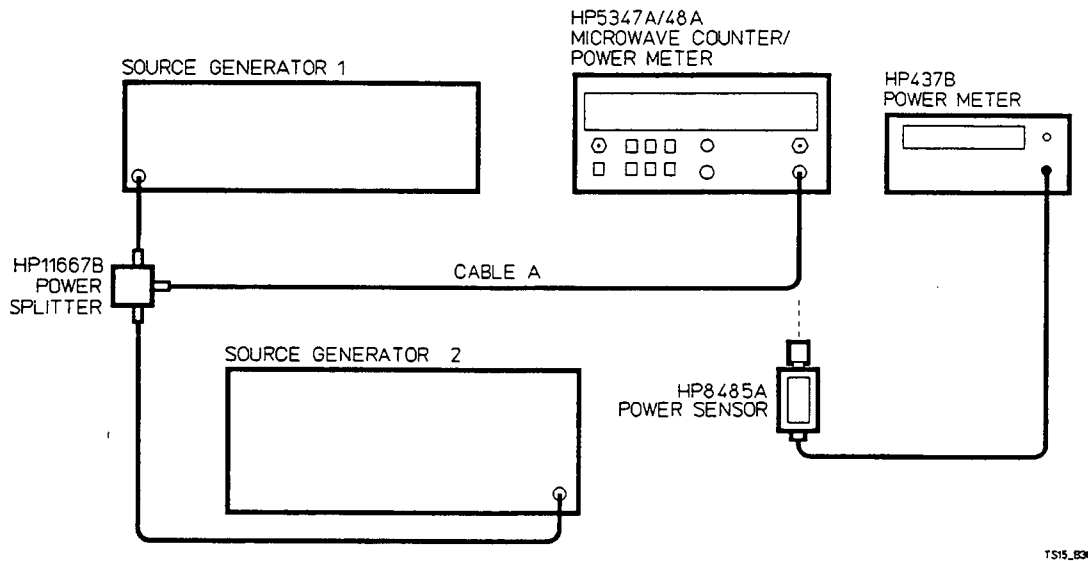

Figure 4-9. Automatic Amplitude Discrimination Test Setup
1. Connect the Equipment as shown in *Figure 4-9*.